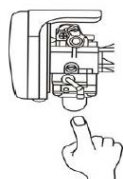

Fig. 7
1. Push the priming pump 5 times, Fig.7